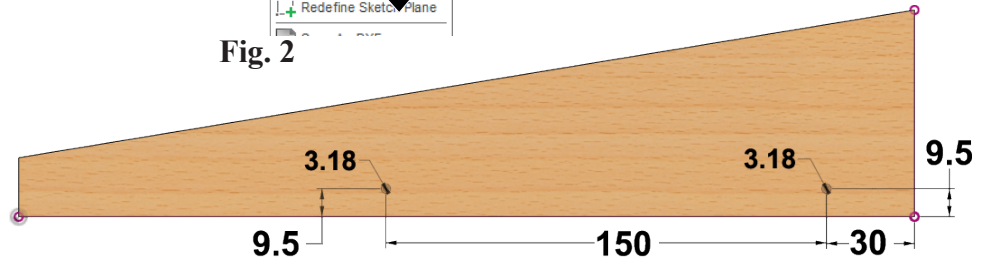

Fig. 3
Step 2. Change dimensions as shown in **Fig. 3**.